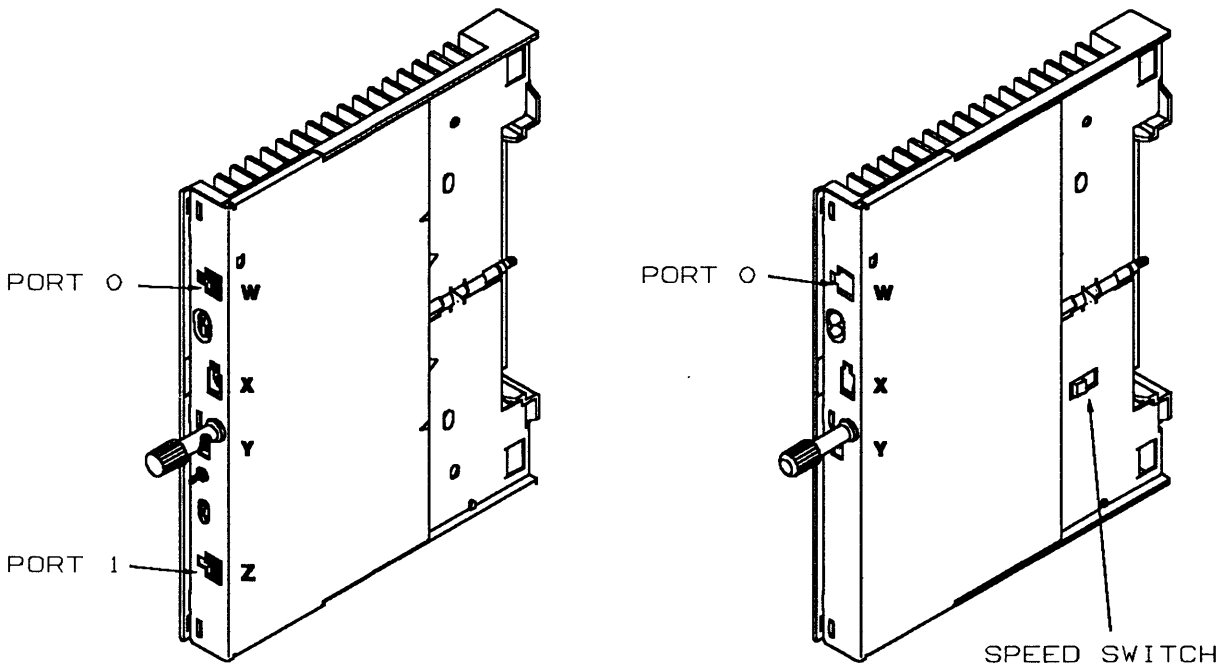

Figure 5-64. LIC Cassette Type 5 and 6
Refer to Figure 5-64 and Figure 5-21 on page 5-26.
6. If you are exchanging a LIC type 6, locate the speed switch on the right side of the LIC cassette (see Figure 5-64) and set it as it was on the replaced card.